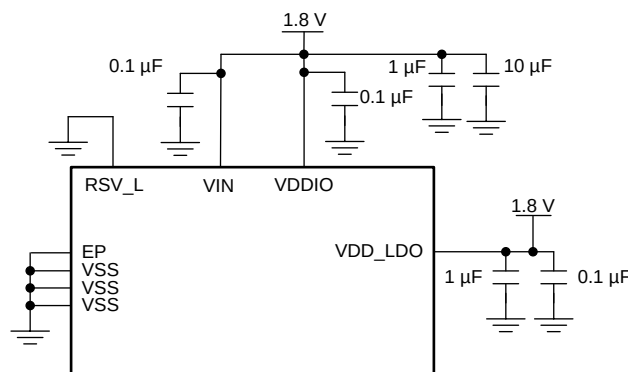

Figure 25. Single 1.8 V Supply Mode - Not Compatible with LMH1219
- **Single 1.8 V Supply Mode:** This mode provides the lowest power consumption. In this mode, 1.8 V is connected to VIN, VDD_LDO and VDDIO. RSV_L is tied to VSS. In this mode, SPI is supported, but SMBus serial interface is not. *In Single 1.8 V Supply Mode, the LMH0324 is not drop-in compatible with the LMH1219.* See Figure 25 for more details.